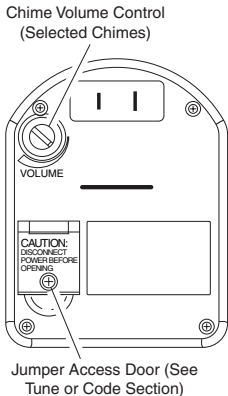

Figure 2
4. **Adjust volume control (Available on selected chimes).** Unplug chime and adjust volume control to desired volume (see Figure 2). Plug chime back into wall outlet.